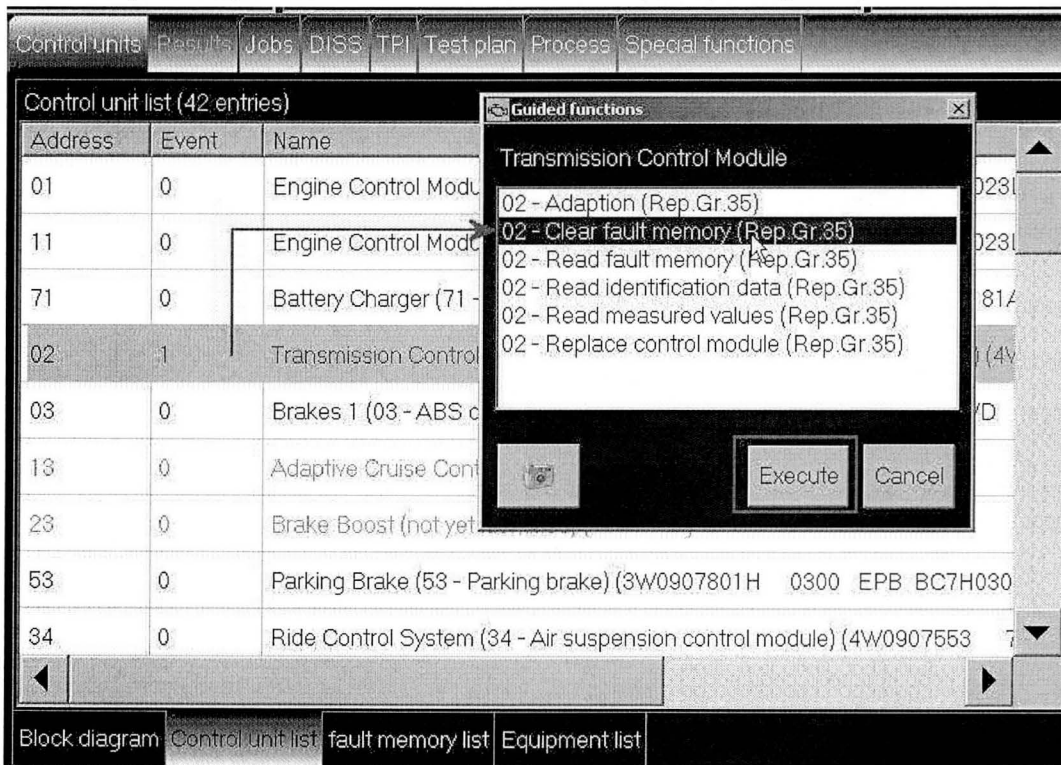

Figure 10
- 20. NOTE 2: It is possible that an engine or transmission fault code may require guided fault finding to be used directly in that specific control module to clear the fault code (see Figure 10)